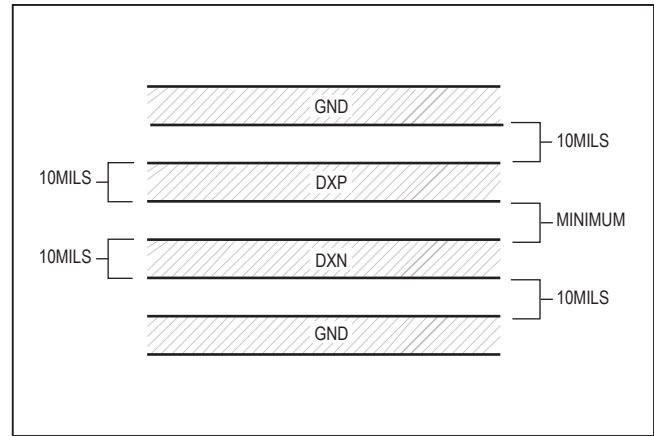

Figure 5. Recommended DXP/DXN PC Traces
- 4) Connect guard traces to GND on either side of the DXP-DXN traces when possible (Figure 5). With guard traces in place, routing near high-voltage traces is no longer an issue.
- 7) Use wide traces. Narrow traces are more inductive and tend to pick up radiated noise. The 10-mil widths and spacings recommended in Figure 5 are not absolutely